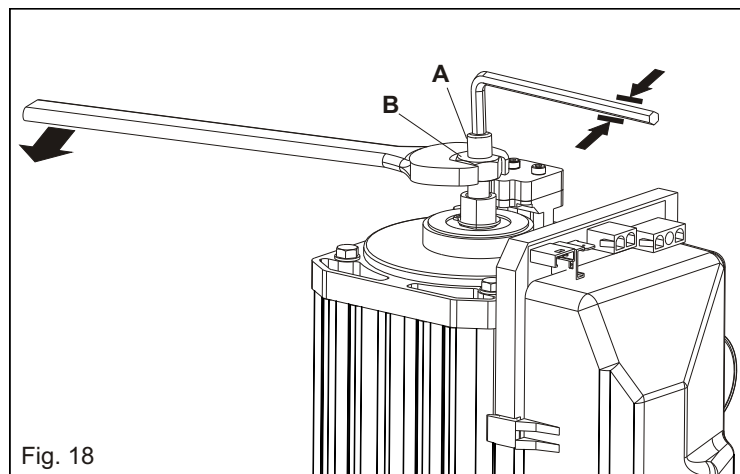

Fig. 18
- Loosen the blocking dice **B** (Fig. 18) keeping the clutch adjusting screw (**A**) still.